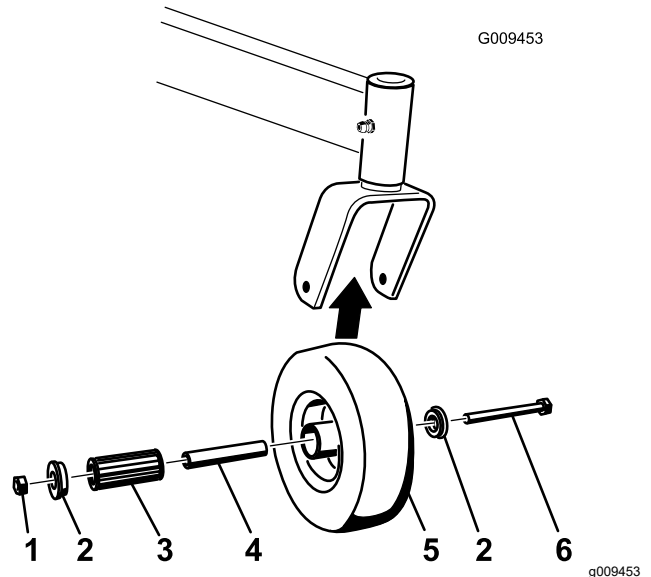

Figure 60
1. Remove the locknut and wheel bolt holding the caster wheel to the caster fork (Figure 60).
2. Remove 1 bushing, then pull the spanner bushing and roller bearing out of the wheel hub (Figure 60).
3. Remove the other bushing from the wheel hub and clean any grease and dirt from the wheel hub (Figure 60).
Note: Replace any damaged or worn parts (Figure 60).
5. Place 1 bushing into the wheel hub (Figure 60).
6. Grease the roller bearing and spanner bushing, and slide them into the wheel hub (Figure 60).
7. Place the second bushing into the wheel hub (Figure 60).
8. Install the caster wheel into the caster fork and secure it with the wheel bolt and locknut (Figure 60).
9. Tighten the locknut until the spanner bushing bottoms against the inside of the caster forks (Figure 60).